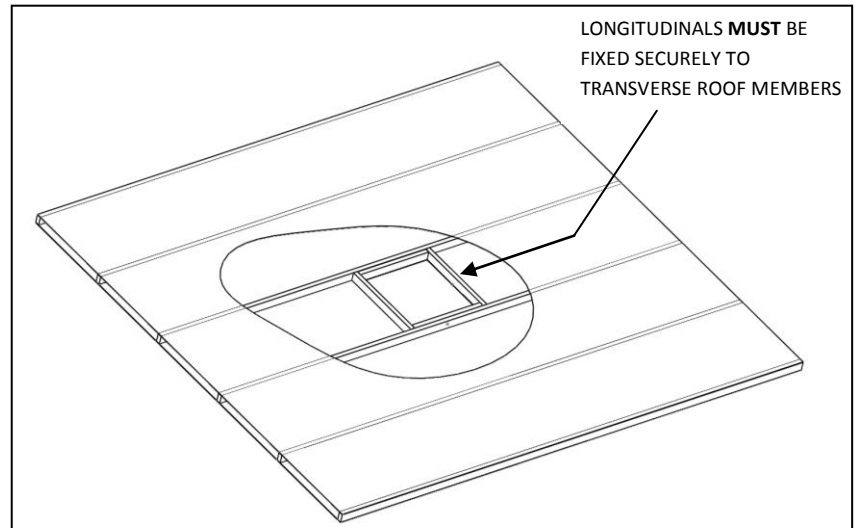

Fig 3: Shows an ideal roof structure with strong longitudinals and a 14' hole boxed
- The square hole in the roof (356 x 356mm, 14" x 14") **MUST** be boxed up with minimum 20mm square timber to provide a structure strong enough to withstand the compression of the installation bolts. This is also to ensure that air is not drawn from the roof cavity (Fig 3 & 4). Remember to leave access for wiring.
- Longitudinals **MUST** be fixed securely to the transverse roof members to transfer load (see Fig 3 & 4).